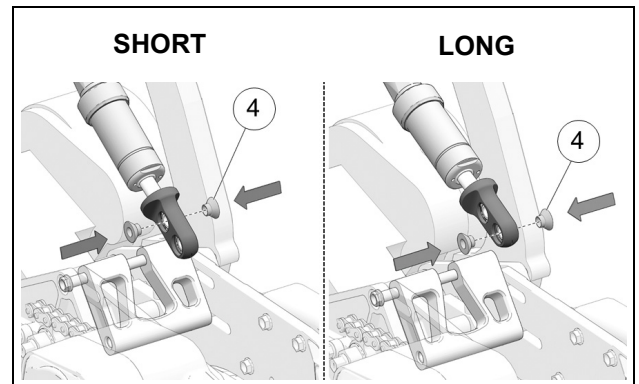

Figure 30
- Insert the two spacer bushings (4) in the holes that will produce the optimal mounting position while keeping inside the maximum allowable rod end length. See Figure 30.